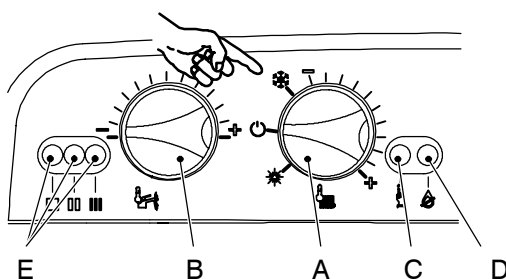

Fig. 9.13
- Keep pressed the reset button C for about 10 seconds (Fig. 9.13) until the lock-out signal lamp D blinks.